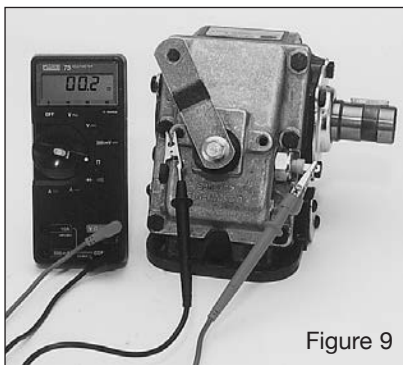

Figure 9
4. Engage the PTO. The meter will show continuity (Figure 9).